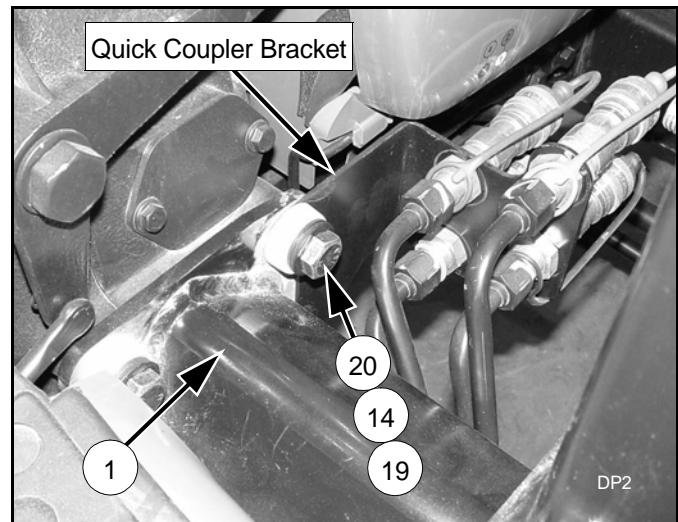

Figure 2 Right Rear Mount and Quick Coupler Bracket Installed
2. Attach right rear mount to tractor housing using four cap screws (20), hardened flat washers (14), and 1/2 spacer washers (19).
3. Place quick coupler bracket between 1/2 inch spacer washer and right rear mount as shown in Figure 2.
4. Install left rear mount to tractor housing using four cap screws (20), hardened flat washers (14), and 1/2 spacer washers (19).